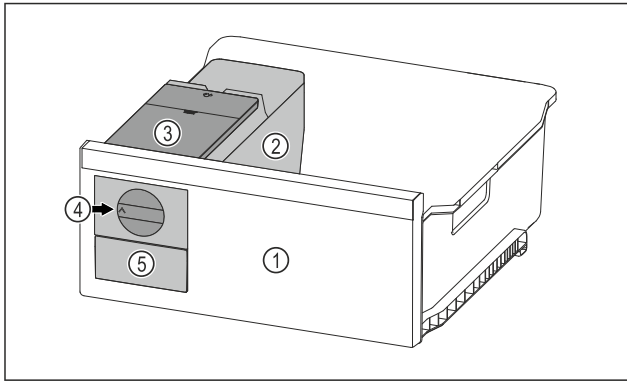

Fig. 127 Example illustration
- ▶ Turn the rotary knob Fig. 127 (4) clockwise as far as it will go.
Ice cubes fall from the ice cube tray into the ice cube drawer Fig. 127 (5).